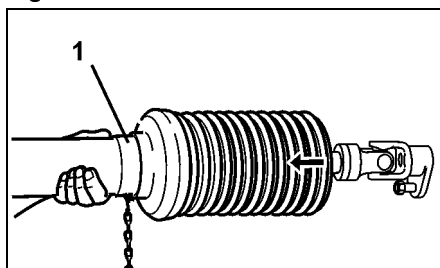

Fig. 14
- Pull off (Fig. 14/1) protective half.